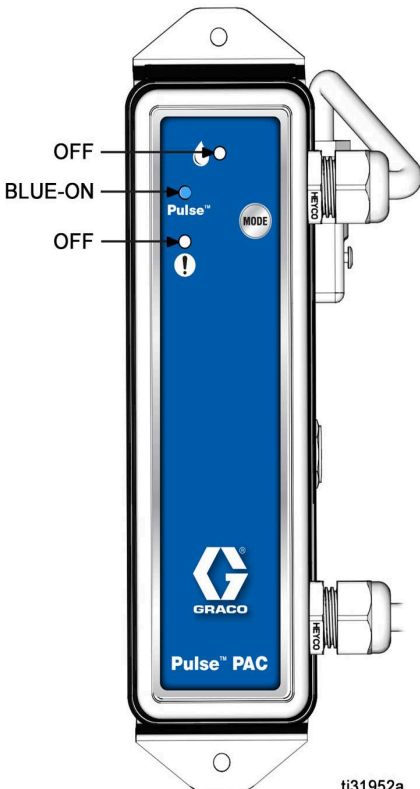
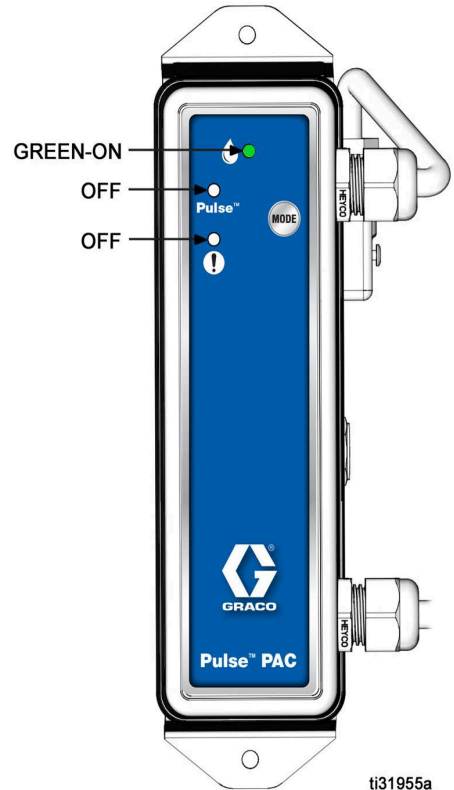
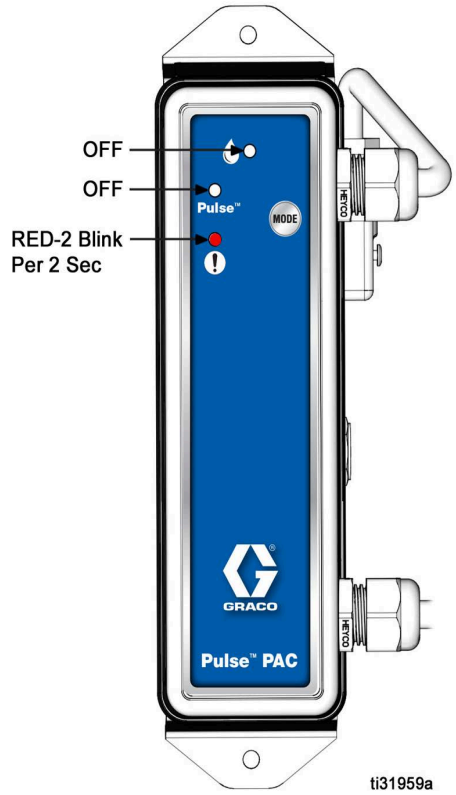

FIG. 16
FIG. 19
FIG. 23
NOTE: See **Pulse Mode, No Errors** (FIG. 16, page 12) and **Work Off Line Mode, No Errors**, FIG. 19, page 13).
- In the Pulse (preferred) (FIG. 16) mode, the pump will not operate unless it receives authorization from the Pulse software.
- The Work Off Line mode (FIG. 19) turns on air to the pump so the pump can be energized without an authorization through Pulse.
LEDs on the PAC illuminate and/or flash to report the status or error code of the PAC. Refer to FIG. 16 - FIG. 23 to determine the PAC status.